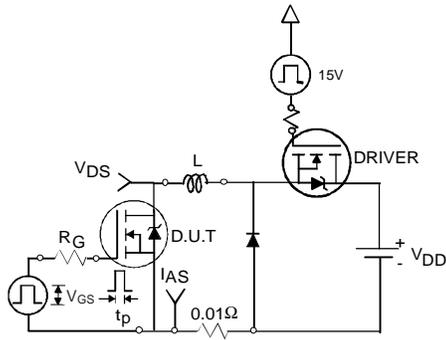

Fig 12a. Unclamped Inductive Test Circuit
- ③ $I_{SD} \leq 140A$, $di/dt \leq 110A/\mu s$, $V_{DD} \leq V_{(BR)DSS}$, $T_J \leq 175^\circ\text{C}$
- ④ Pulse width $\leq 400\mu s$; duty cycle $\leq 2\%$.
- ⑤ $C_{oss \text{ eff.}}$ is a fixed capacitance that gives the same charging time as C_{oss} while V_{DS} is rising from 0 to 80% V_{DSS} .
- ⑥ Limited by T_{Jmax} , see Fig.12a, 12b, 15, 16 for typical repetitive avalanche performance.
3. Equation below based on circuit and waveforms shown in Figures 12a, 12b.